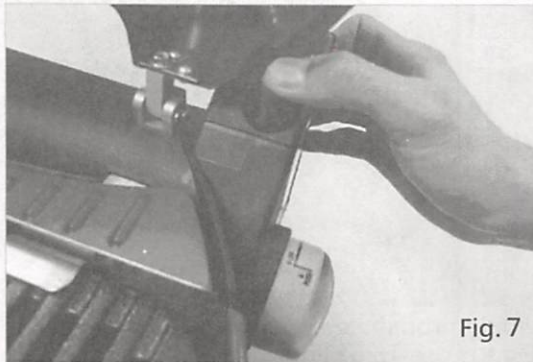

Fig. 7
- 4) Push the red ignition button several times, so it clicks each time (Fig.7)